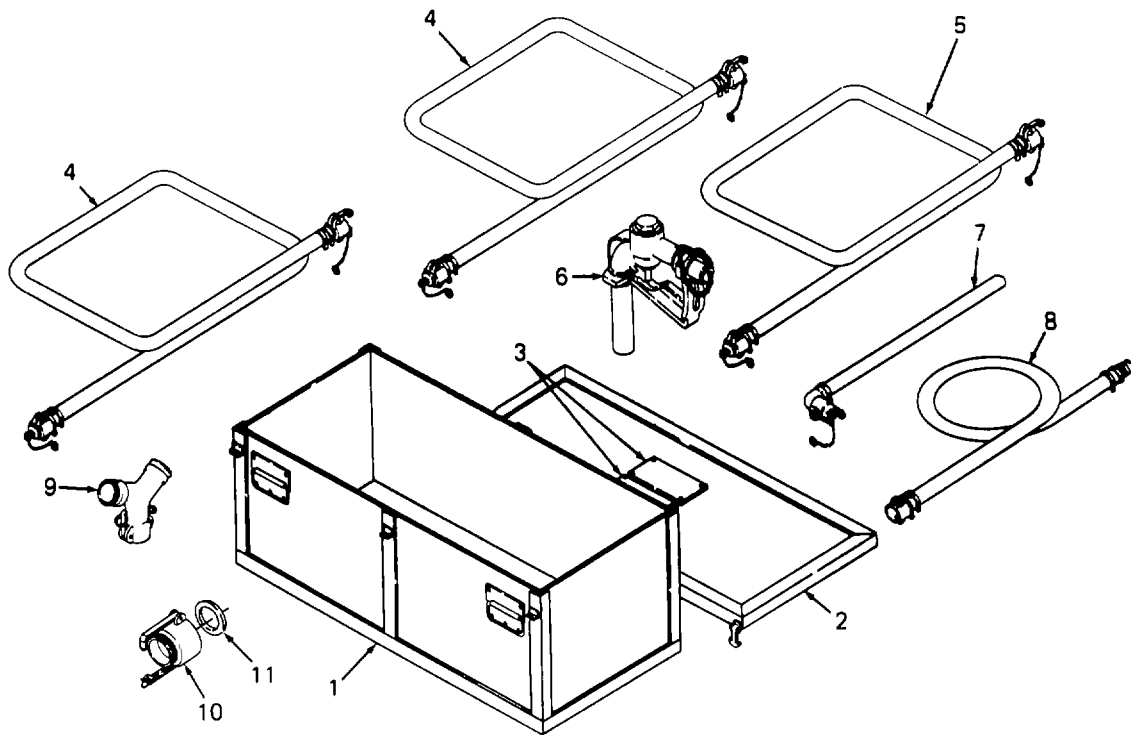

Figure 1-3. Storage Chest 1 and Related Pump Accessories
(4) Engine air intake baffle. This baffle combines with the enclosures to direct air to the air cleaner and the flywheel fan. Additionally, during cold weather starting procedures, this baffle encloses a space that is warmed by the engine intake heater.
(5) Intervehicle power cable electrical plug connector. This electrical connector is used during pump assembly operation in cold weather. It allows the pump assembly to be connected to the 24 volt DC electrical systems of Army vehicles. Pump assembly has two internal electric heaters that are used during cold weather starting of the pump assembly. The intake air heater warms air coming into the enclosure and the engine intake air. The engine oil is warmed by an immersion heater installed into the side of the engine facing the sound enclosure rear panel assembly. Controls and indicators for the two heaters are mounted on the sound enclosure front panel assembly. This electrical connector meets the requirements of MS52131 and has an attached dust cover to prevent damage and contamination when connector is not in use.
(6) Intake air heater. This 400 watt finned heater runs on 24 volts DC supplied from the intervehicle power cable electrical plug connector. The heater mounts on the pump frame.
(7) Immersion heater. This 75 watt immersion heater runs on 24 volts DC supplied from the intervehicle power cable electrical plug connector. The engine has accommodations for an oil dipstick to be mounted on either side of the engine. This heater threads into the unused oil dipstick location on the engine crankcase facing the sound enclosure rear panel assembly.
(8) Pump frame. The pump frame provides mounting points for the sound enclosures, pump and motor assembly, air intake heater, ground rod attachment, etc. It rigidly supports all components of the pump assembly and provides 4 folding handles to allow 4 soldiers to move the pump assembly as required.
(9) Pump suction connection. The connection to the suction side of the centrifugal pump is made through a 1.5 inch nominal ID female quick disconnect meeting the requirements of MS27024-9, Class 1. Installed in this fitting is an internal gasket meeting the requirements of MS27030-5. When pump assembly is not in use, a male quick disconnect dust plug, meeting the requirements of MS27029-9, Class 1, is installed to protect the centrifugal pump from contamination.
(10) Pump discharge connection. The connection to the discharge side of the centrifugal pump is made through a 1.5 inch nominal ID male quick disconnect. When pump assembly is not in use, a female quick disconnect dust cap, meeting the requirements of MS27028-9, Class 1, is installed to protect the centrifugal pump from contamination. During pumping unit set up, the pump discharge connection is also used to prime the pump with the liquid to be pumped. Installed in this female quick disconnect is an internal gasket meeting the requirements of MS27030-5.
(11) Diesel engine. Four-stroke, vertical cylinder, air-cooled diesel. Provides power necessary to drive the pump. Diesel engine is attached to the engine mounting plate. The engine mounting plate is attached to the pump frame using rubberized shock mounts to reduce noise and vibration during pump assembly operation. A grounding strap electrically connects the engine (and the attached centrifugal pump) to the frame. During pump assembly operation, a ground rod is attached to the frame to prevent static electricity buildup.
(12) Centrifugal pump. Continuous duty, self-priming, 50 GPM at 100 feet of head. This pump incorporates a check valve on its suction side. The centrifugal pump is mounted to the diesel engine and is keyed to the engine's output shaft.
(13) Spark arrestor. This baffle assembly suppresses engine exhaust sparks. The spark arrestor is mounted on the engine.
c. Storage Chest 1 and Related Pump Accessories (See Figure 1-3).
(1) Storage Chest 1 Bottom (one each)
(2) Storage Chest 1 Top (one each)
(3) Storage Chest 1 Information Plate (one each)
(4) Discharge Hose Assembly (two each)